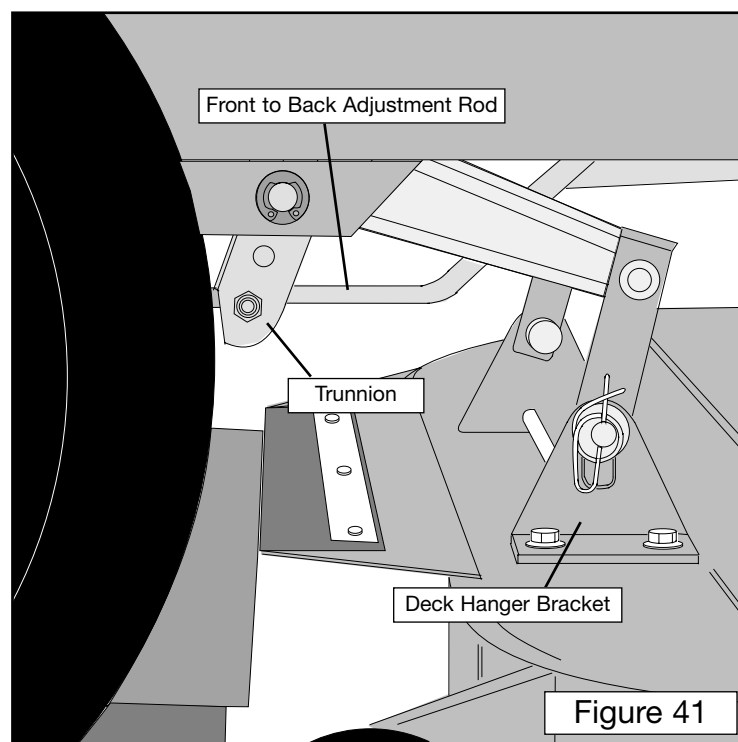

Figure 41
3. Now locate the Front to Back Adjustment Rod to the right rear offside wheel, you will find the Trunnion (Figure 41) that links the rod to the Deck Hanger Bracket. Both the Trunnion and the Rod are threaded and adjustment is achieved by rotating the Trunnion to 'in-effect' lengthen the Rod.
- ✓ Are the Cutter Deck Hanger brackets (Figure 41) moving freely or are they hitching up. To check this, lift the Cutter Deck to its highest position and lift and rock it, watching to ensure that the brackets move freely – if not, clean and lubricate.